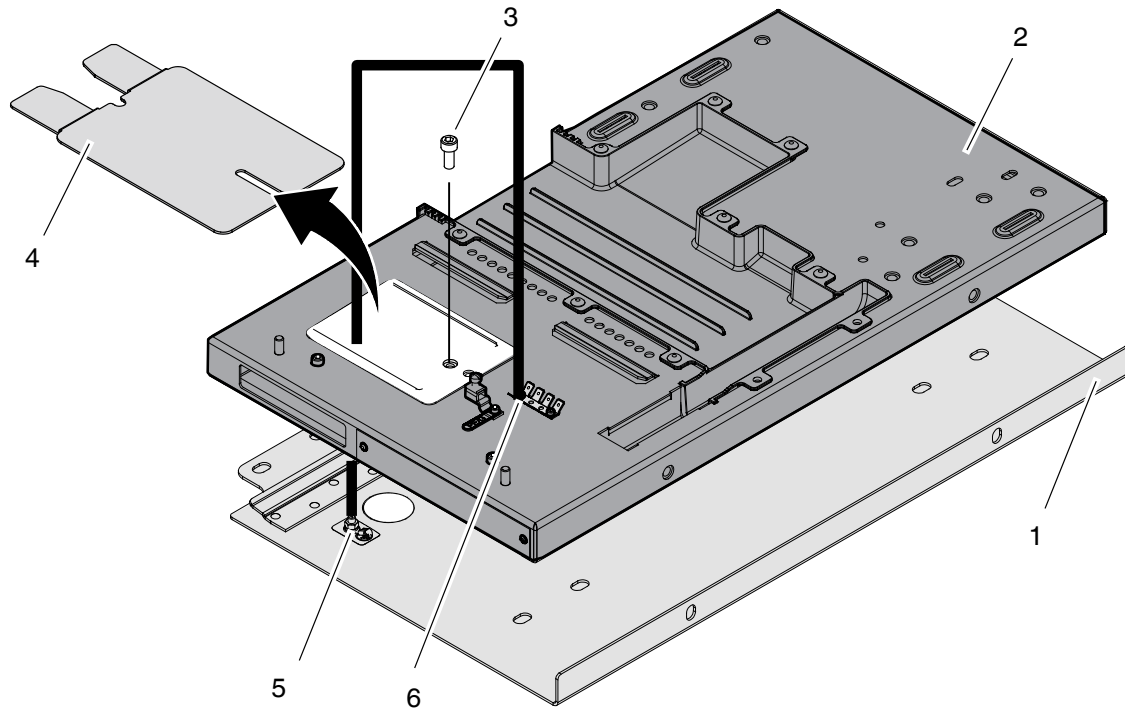

Figure F-12 Disconnecting ground wire
3. See Figure F-12. Disconnect the ground wire from the chassis to sub-base by doing the following: